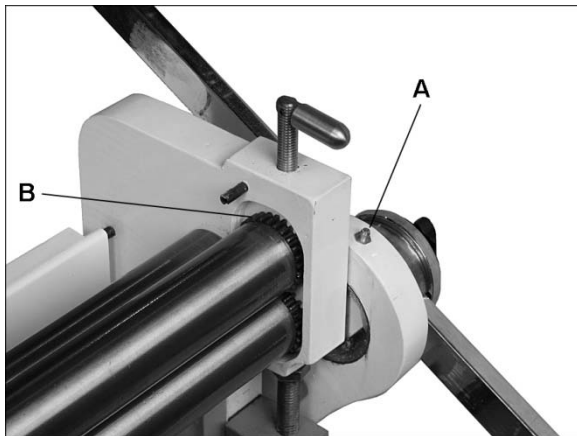

Figure 17
1. Apply #2 lithium tube grease once a month to the grease nipples on both ends of frame (A, Figure 17).
3. Lightly brush multi-purpose grease onto the gears at the end of the rollers (B, Figure 17). Turn operating handle to distribute the grease.